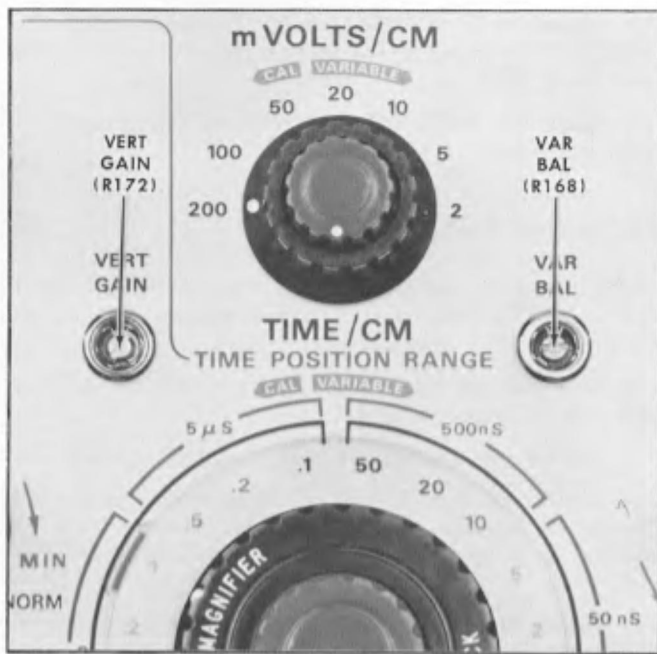

Fig. 5-28. VAR BAL and VERT GAIN screwdriver-adjust controls on Type 1S1 front panel.
g. Adjust the front-panel VAR BAL screwdriver-adjust control (see Fig. 5-28) if operation of the VARIABLE control is not correct.